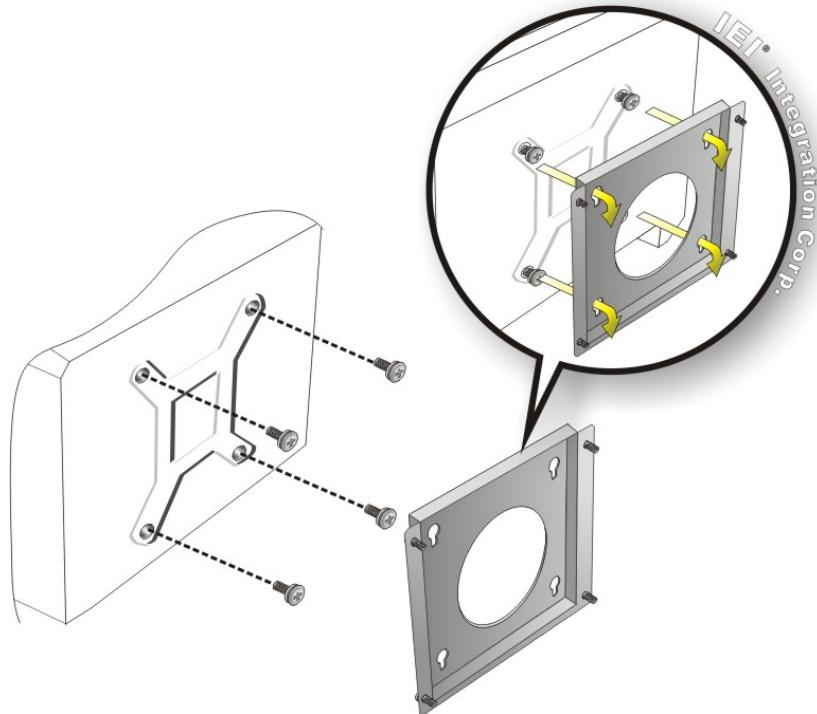

Figure 3-23: Mount the Chassis
Step 6: Insert the four monitor mounting screws provided in the wall mounting kit into the four screw holes on the real panel of the monitor and tighten until the screw shank is secured against the rear panel (**Figure 3-23**).
Step 8: Carefully insert the screws through the holes and gently pull the monitor downwards until the monitor rests securely in the slotted holes (**Figure 3-23**). Ensure that all four of the mounting screws fit snugly into their respective slotted holes.